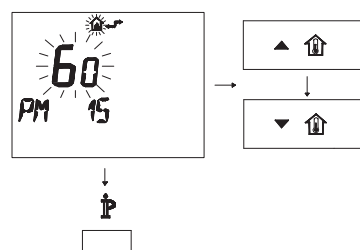

Figure 12.20
- Change the programmed SET using the buttons **▲** **⬆** or **▼** **⬆** until a **set of 60** is displayed, wait until the programmed number starts to flash (Figure 12.20)